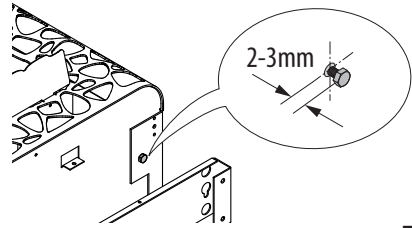

Fig. 6
- There must be a clearance of approx. 2 mm between the screw head and the rear wall of the stove in order to attach the sauna heater. (Fig. 6).